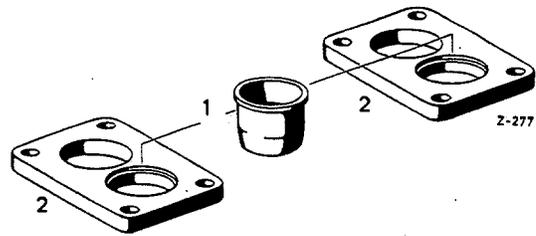

Fig. M 31 S/1
The air jet (1) in the upper insulation flange (2) must be on the manifold side of Stage 1 (Fig. M 31 S/1).
**Note:** The air jet (1) and the insulation flange (2) must be flush.